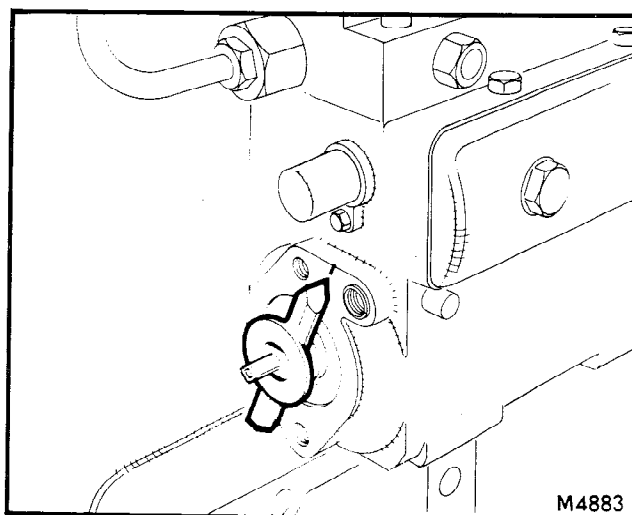

Fig. 2
- i. Remove the scribing arm from timing gauge MS 67 and locate the hexagonal handle through the gauge body so that the corner marked 'O' is in line with the 240° position marked on the gauge body spigot (refer to Fig. 2). Insert the splined end of the gauge into the injection pump drive gear hub and slide the gauge body forward until it abuts the timing case flange then lock in position using the knurled screw.
●Fig. 2●
16. Fit timing pointer 18G 1114 to the pump camshaft and rotate the camshaft to align the pointer with the timing mark on the pump body, refer to Fig. 2.